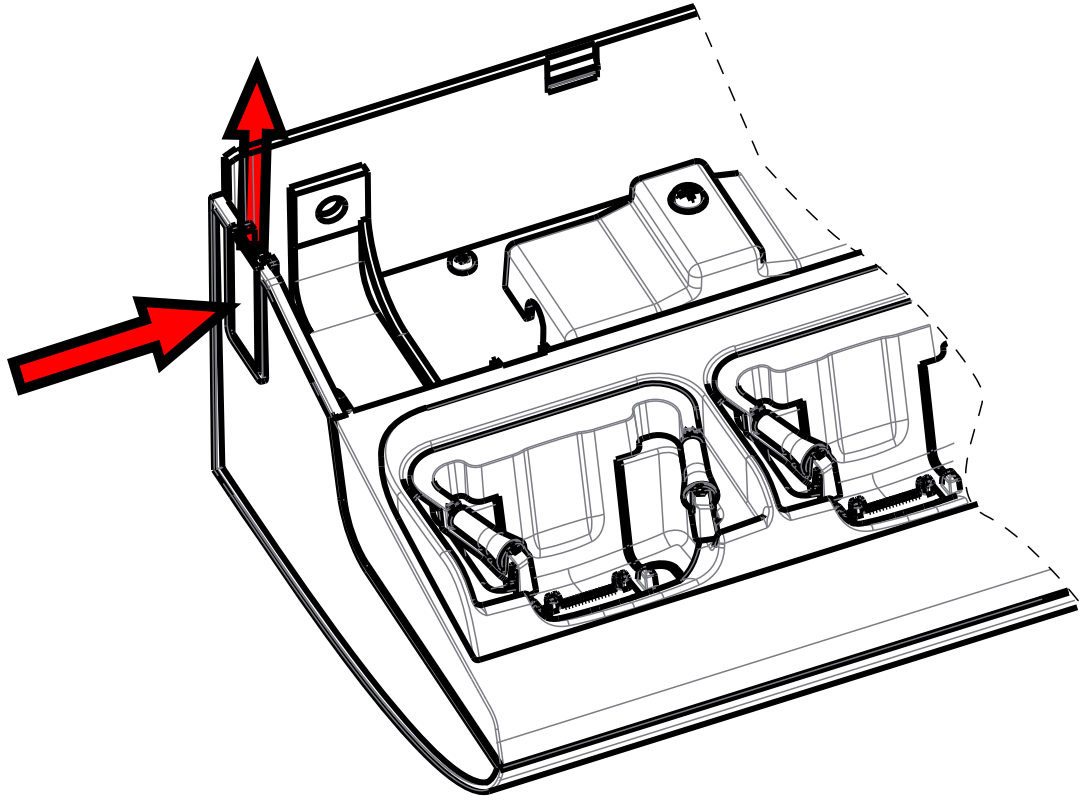

Figure 6: Mounting the cable support holder
- 4) Mount the cable support holder at the unused opening in the Handset Charging Rack closer to the AC power source. The cable support holder is provided in the parts bag. See Figure 6: Mounting the cable support holder on page 12.